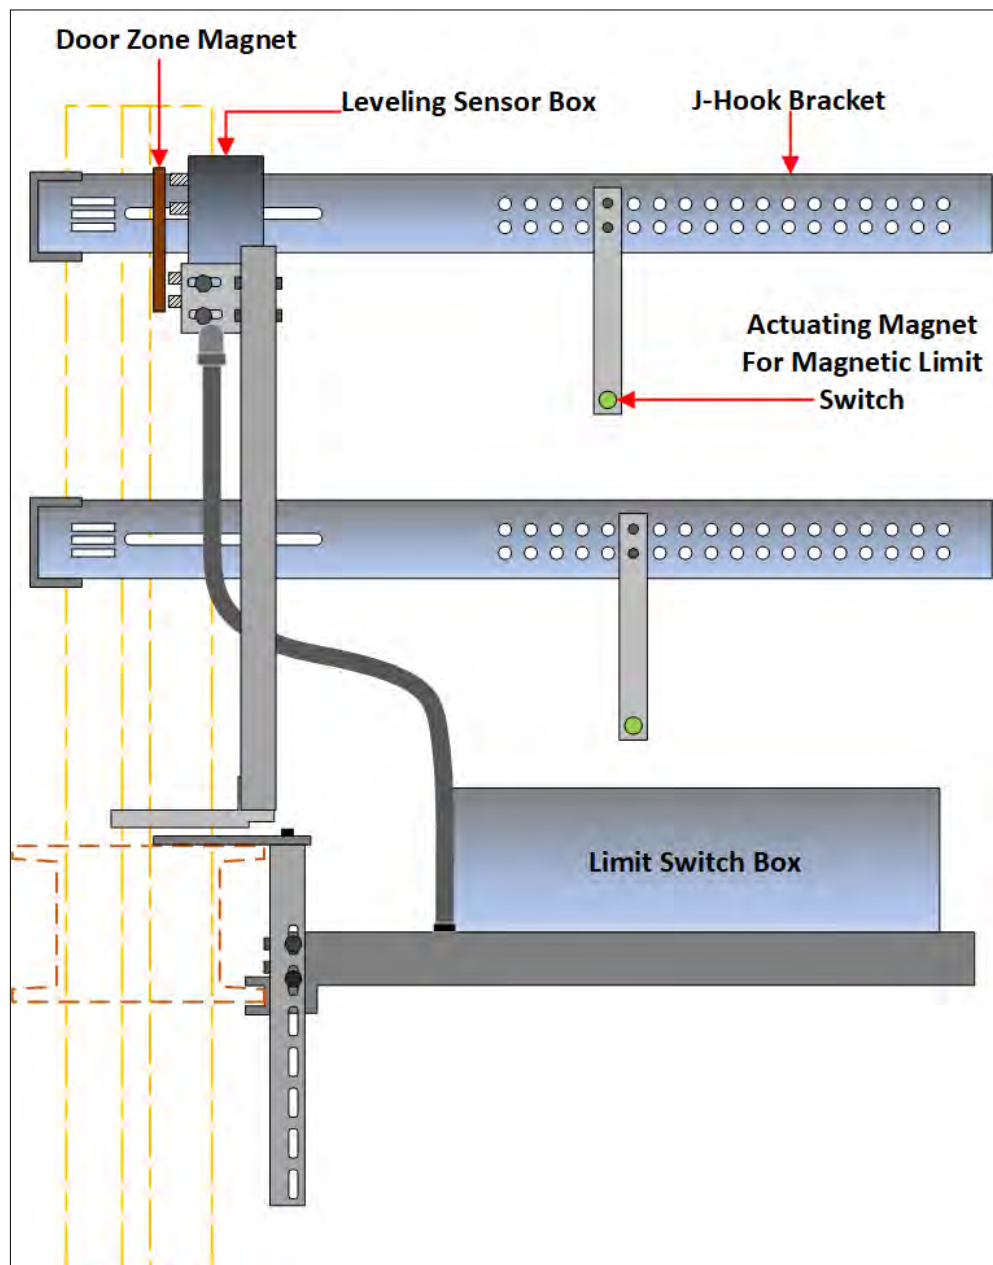

Figure 2-23: Tapeless Selector 7 Mounting Bracket Side View
- Mount the limit switch box mounting bracket to the cross head ensuring that the mounting is plumb and level. See Figure 2-23.
- Mount the limit switch box to the mounting bracket. The selector box should be positioned to allow for a distance of 1/2 inch from the face of the magnetic switch to the end of the actuating magnets that will be installed in step 3. See Figures 2-23 and 2-24.
- Mount a J-hook bracket with a **GREEN** actuating magnet for each magnetic limit switch at the proper distance from the top terminal landing. See Table 2-1 for the proper distance. See Figures 2-23 and 2-24 for the proper position of the actuating magnet on the J-hook bracket.
- Mount a J-hook bracket with a **RED** actuating magnet for each magnetic limit switch at the proper distance from the bottom terminal landing. See Table 2-1 for the proper distance. See Figures 2-23 and 2-24 for the proper position of the actuating magnet on the J-hook bracket.